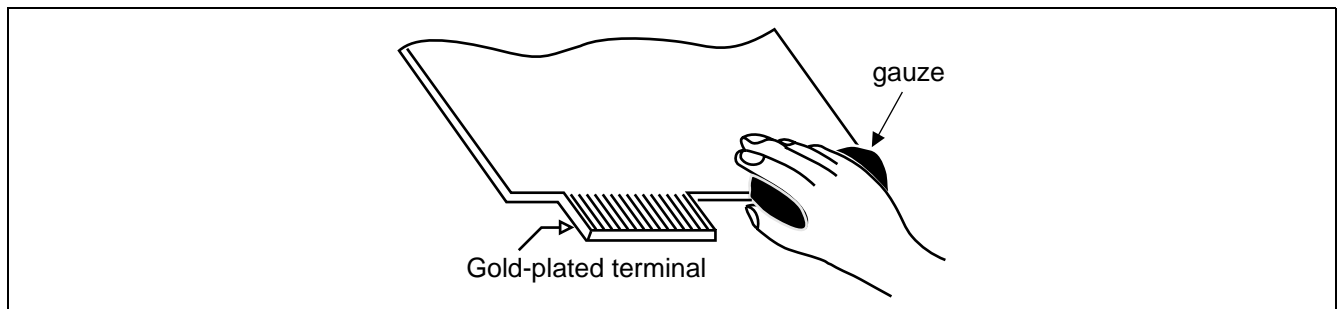

Figure 2-23 How to Clean Gold-Plated Terminal
- (b) Using a soft cotton cloth, wipe both sides of the connector portion (gold-plated terminal) clean (only PA-XX type circuit card), as shown in Figure 2-23.